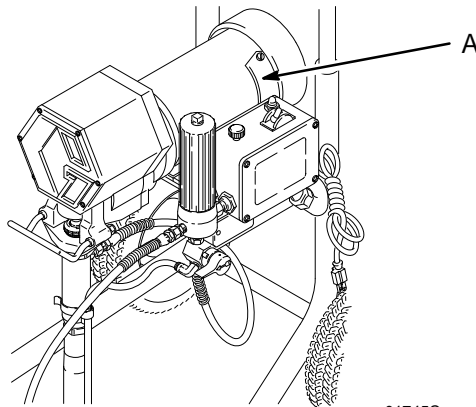

Fig. 10
1. Remove both inspection covers (A). See Fig. 10.